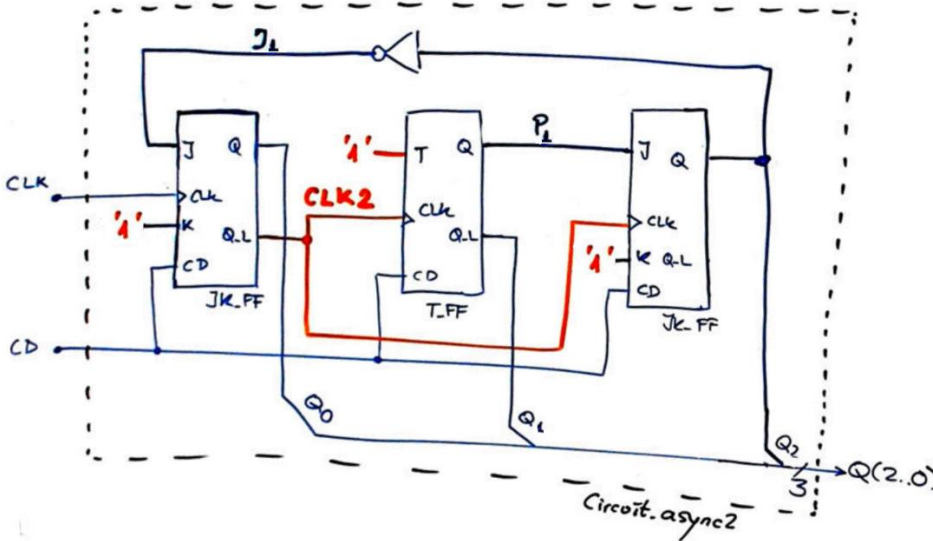

Fig. 1
1. Analyse the circuit in Fig. 1 to determine the output **Q(2..0)** completing an example timing diagram.